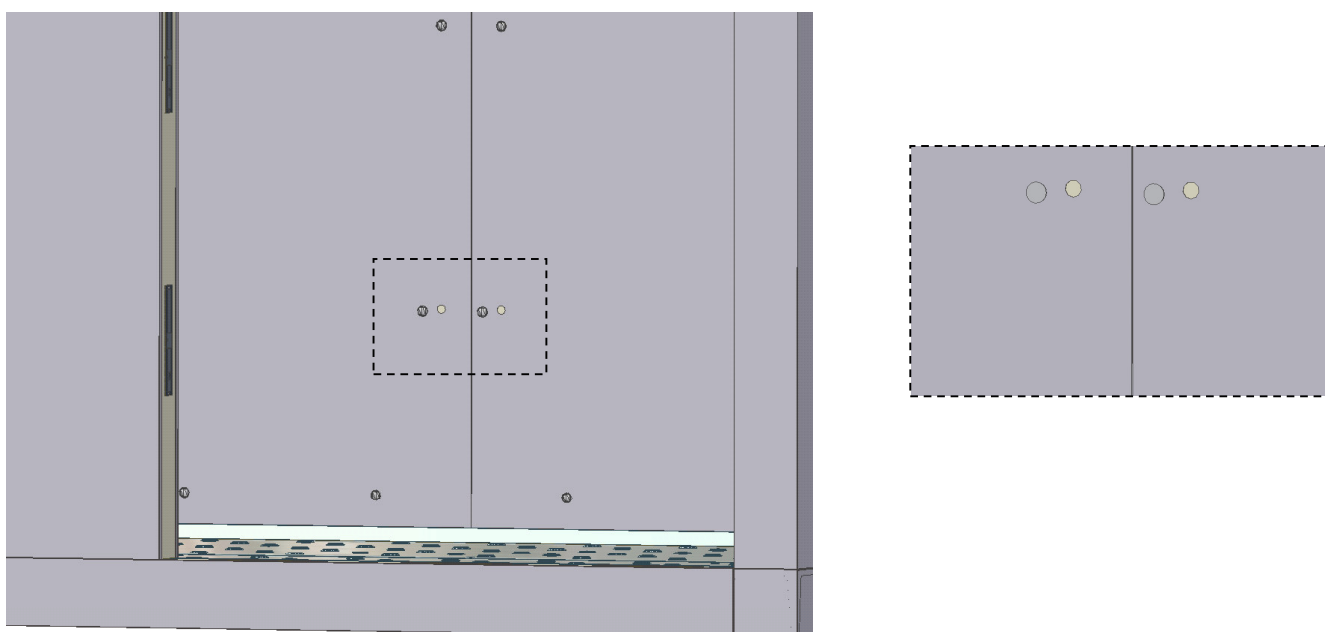

Fig. 7
- After having fastened all the camlocks, insert the **screw caps** in the holes (Fig. 7)